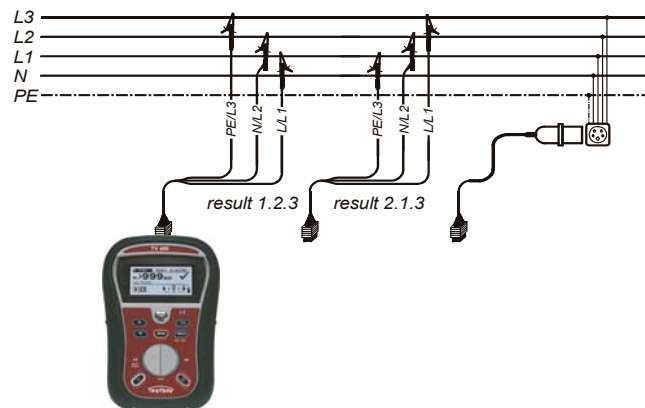

Figure 5.2: Connection of 3-wire test lead and optional adapter in three-phase system
- ❑ **Connect** test leads to the item to be tested (see *figures 5.2 and 5.3*).